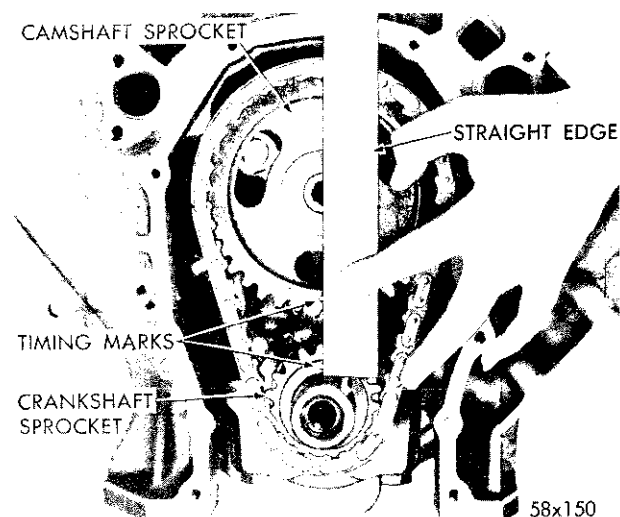

Fig. 24—Checking Alignment of Timing Marks Usin a Straightedge
(1) Place both the camshaft sprocket and crankshaft sprocket on the bench with timing marks on exact imaginary center line through both camshaft and crankshaft bores.
(2) Place the timing chain around both sprockets.
(3) Turn the crankshaft and camshaft to line up with the keyway location on crankshaft sprocket and the dowel holes in the camshaft sprocket.
(4) Lift the sprockets and chain (keep sprockets tight against the chain in position as described).
(5) Slide both sprockets evenly over their respective shafts.
(6) Use a straight edge to check alignment of the timing marks (Figure 24).
(7) Install the washer and camshaft sprocket bolt and tighten to 35 foot-pounds torque.